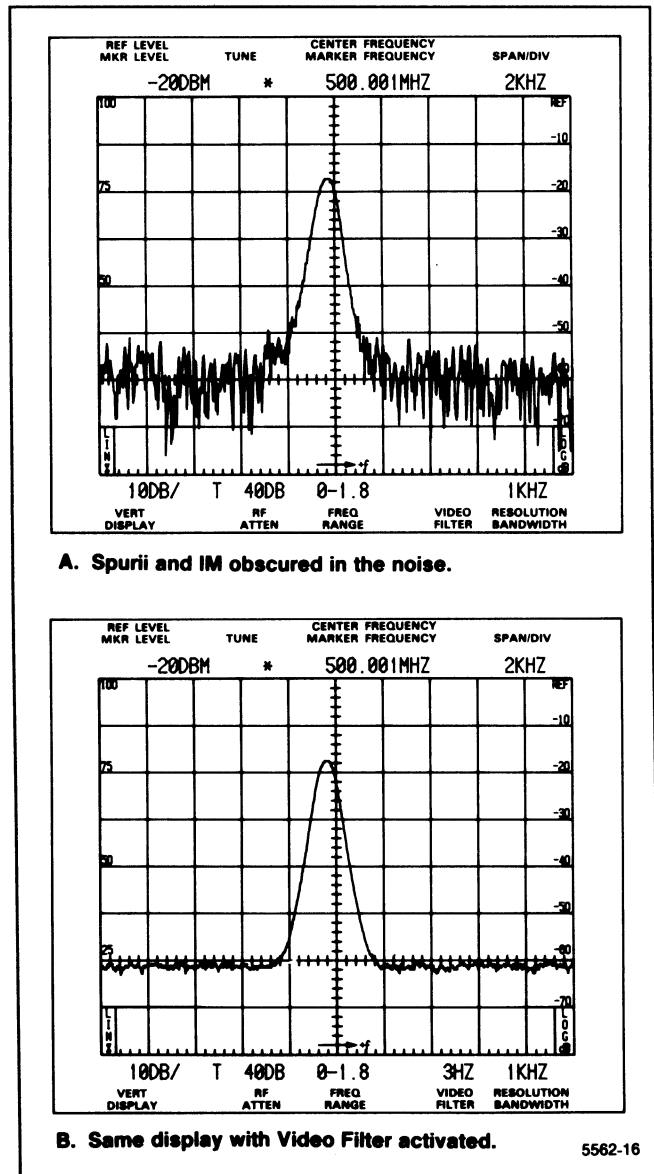

Figure 4-3. Video Filter effect on baseline noise.
b. Alternately activate WIDE and NARROW Video Filters. The noise in each filter is reduced as the filter is switched in. See Figure 4-3. The NARROW filter will have a more pronounced effect on noise reduction. Note the change in sweep rate when the TIME/DIV selector is in the AUTO position, when the Digital Storage is off.